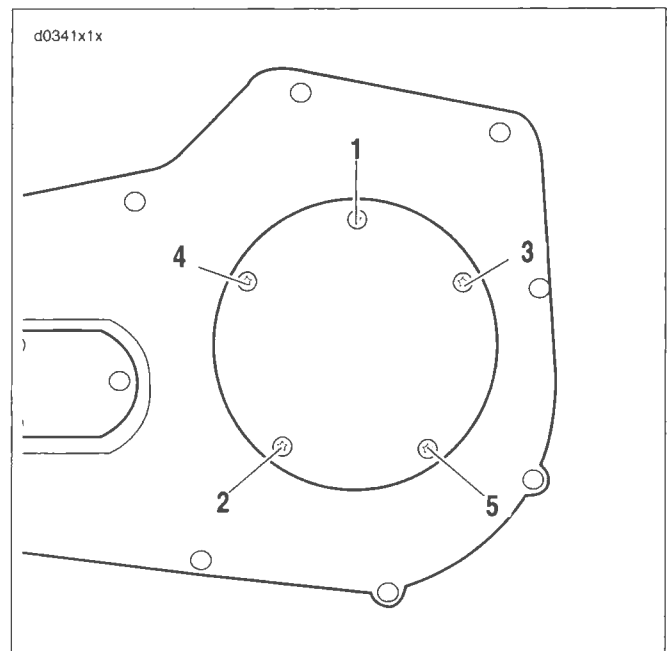

Figure 1-24. Clutch Cover Torque Sequence
- c. See Figure 1-24. Insert screw (with captive washer) through clutch inspection cover and carefully thread it into the top cover screw hole.
- e. Alternately tighten screws to 84-108 **in-lbs** (9.5-12.2 Nm) following torque sequence shown in Figure 1-24.